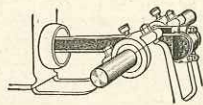

Figure 14.
**Figure 14.** This is a line drawing showing the position that the connecting rod and crankshaft should be in just before the piston is thrown back against compression when starting, as explained in the fourth paragraph under the heading, "Second Method of Starting," on the opposite page.
**Fourth.** Open needle valve on the mixer two full turns to the left, close the air damper and then turn the flywheel to the right one-half turn or until the crank is on the outer dead center, as shown in Figure 14.